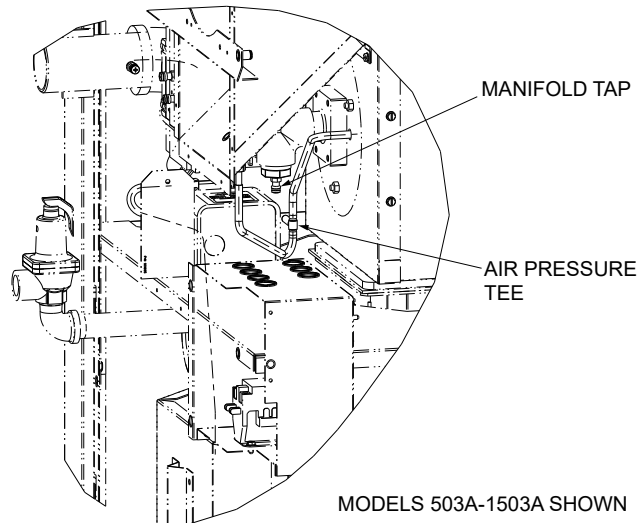

Figure 43. Air Pressure Tee
3. Attach (1) 12" scale manometer near the fan proving switch. Pull black cap from air pressure tee as shown in **Figure 43** and connect the manometer. **NOTE:** Retain caps for reinstallation later.
1. Check blower suction using the manometer attached to the air pressure tee as shown in **Figure 43**, with the heater firing at 100% input. The reading should be as noted in **Table R** for both natural and propane gas.